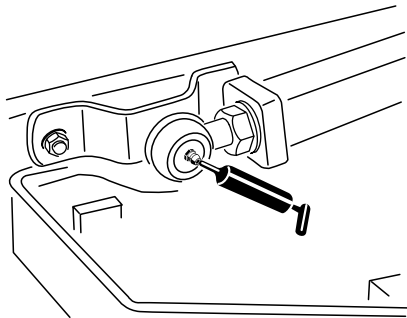

Figure 39
- Lift-arm ball joints (2) (Figure 39)